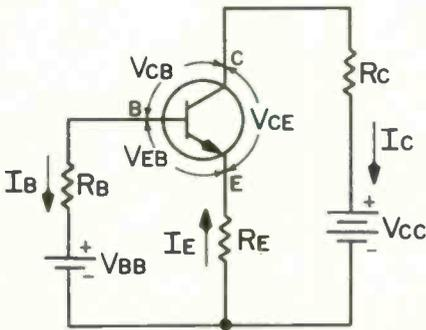

Fig. 1 — Input currents  $I_B$  and  $I_E$  effect the circuit's output current ( $I_C$ ).
■ A previous article in this series on junction transistors described the three basic transistor circuits and how two of these circuits can be combined to form a single circuit with dual independent inputs. We will continue to describe the function of junction transistor circuits with the aid of labels applied to the dual input NPN circuit (Fig. 1).